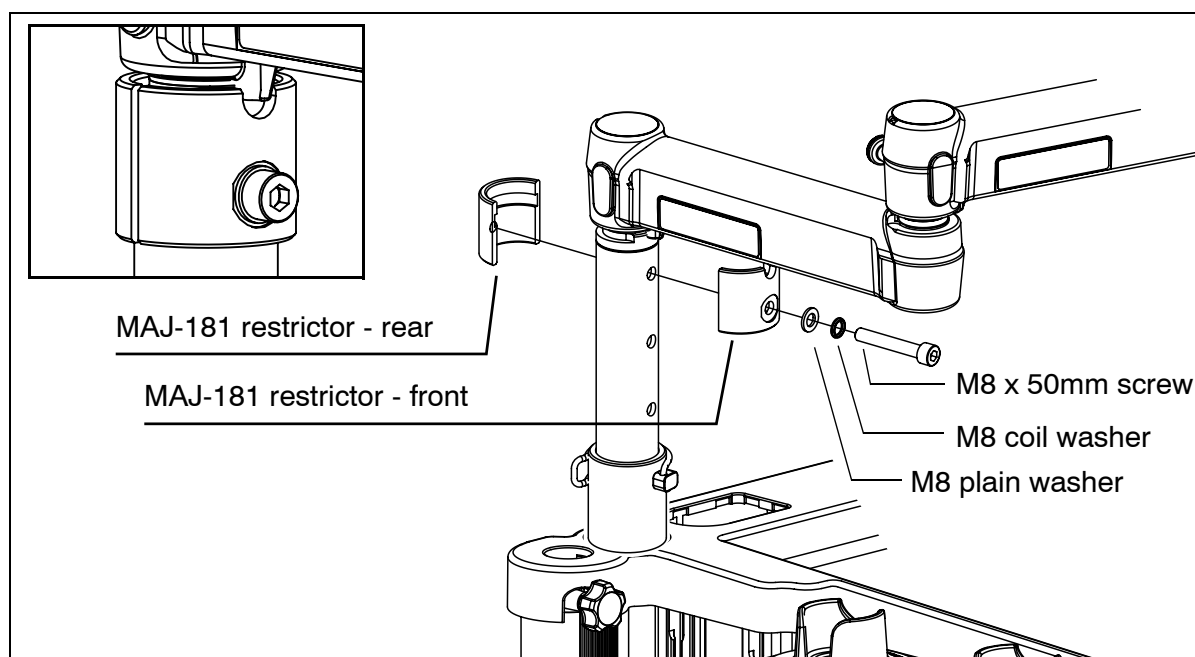

**Figure 4.10**
4. Referring to Figure 4.10, secure the MAJ-181 restrictor - front to the MAJ-181 restrictor - rear through the uppermost hole in the monitor arm using the M8 coil washer, M8 plain washer and M8 x 50mm screw. Fully tighten the screw using the M6 A/F Allen key supplied.
The monitor arm must be parallel to the top tray to ensure the tag on the monitor arm aligns with the cutout in the restrictor (Figure 4.10 inset).